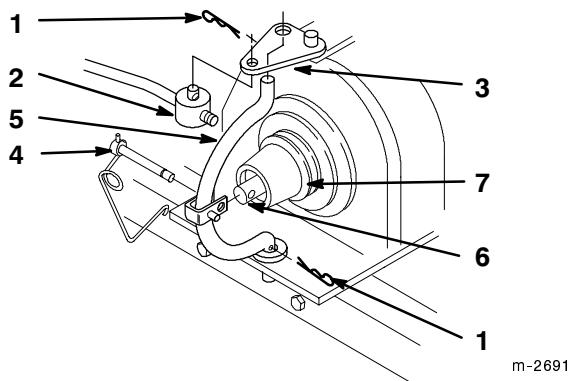

Figure 17
6. Remove hairpin cots from trunnion and bottom of yoke (Fig. 17).
7. Unlatch and remove clevis pin that secures yoke assembly to clutch shaft. Pivot yoke out and forward to remove from clutch shaft and engagement plate (Fig. 17).
8. Remove belt from pulley (Fig. 17).
9. Assemble yoke and engagement plate and attach clevis pin, trunnion and hairpin cots to secure (Fig. 17).